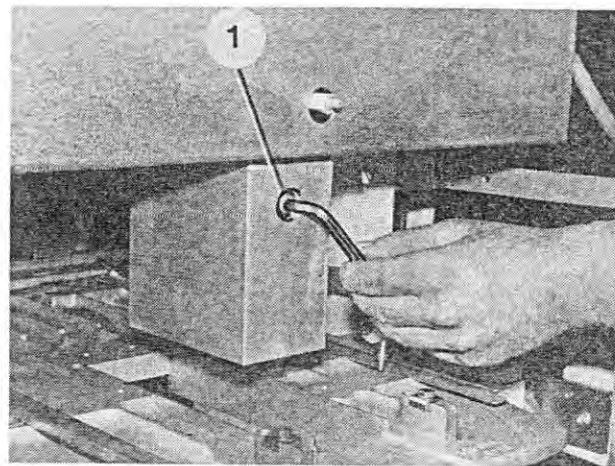

Fig. 135
5. Unscrew the locking screw (Figure 135/1) and pull the pouch stamp off the control rod.